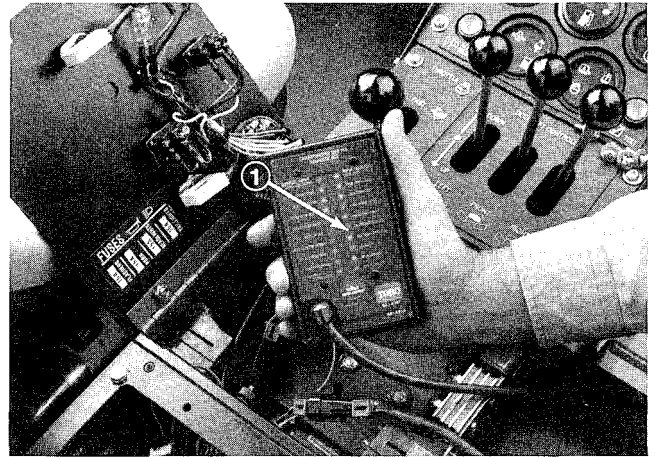

Figure 28
3. Connect the Diagnostic ACE display connector (Fig. 28) to the harness connector. Make sure correct overlay decal is positioned on Diagnostic ACE display.